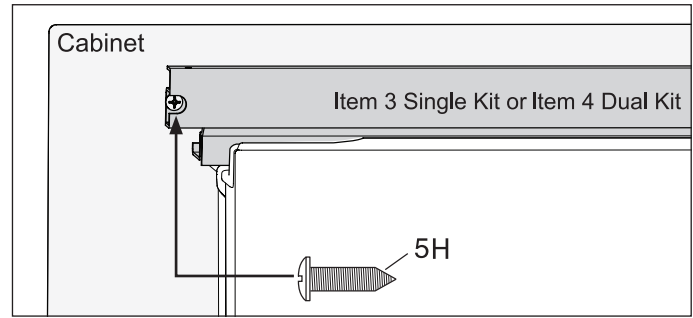

Figure 13
- a. Slide units into place. Adjust height so top trim height reaches 75.09" (1907 mm). Center units in opening and level. (See Step 12 for leveling instructions) (See Figures 13 and 14).